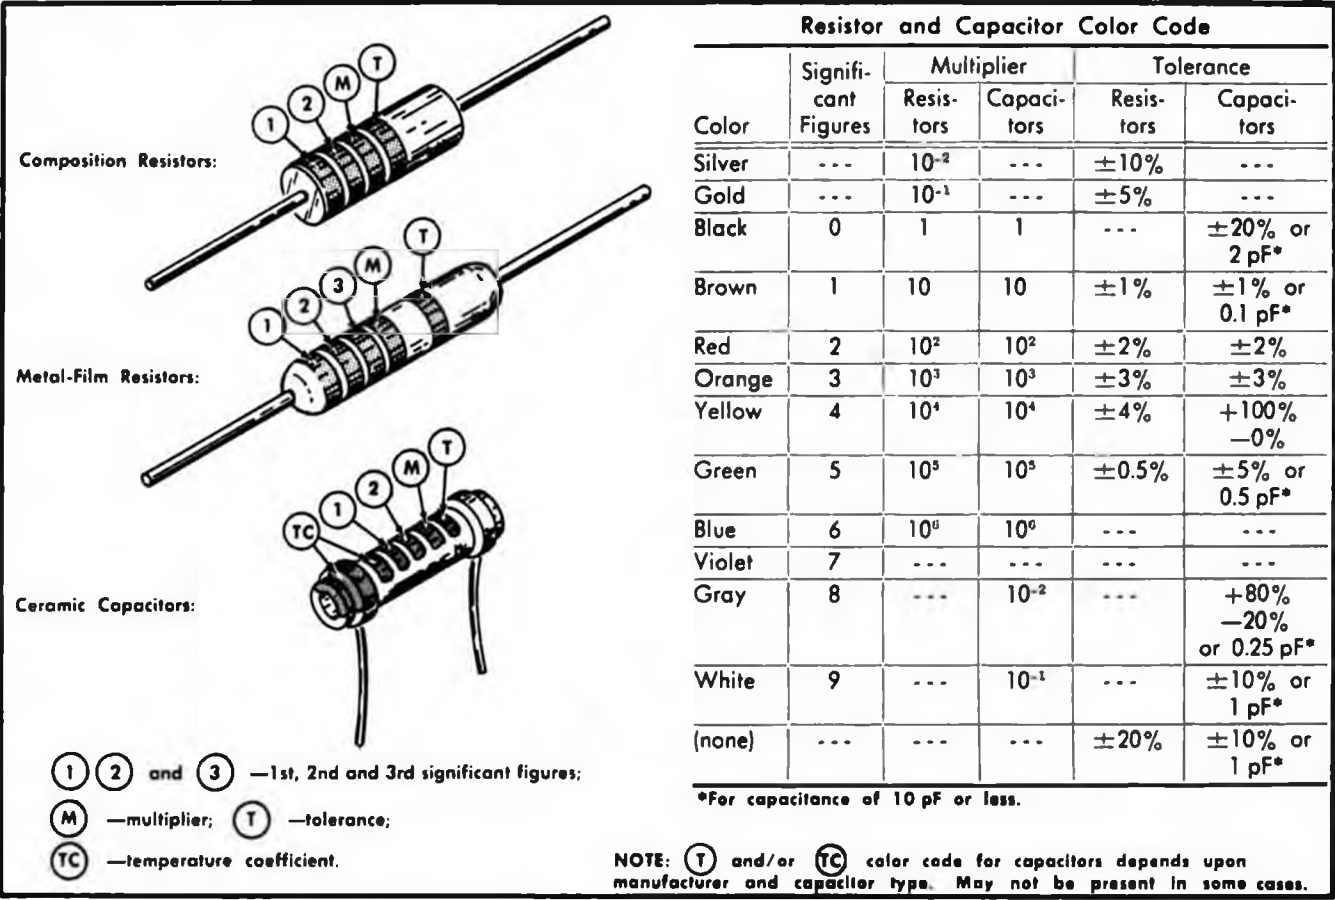

Fig. 4-2. Color-code for resistors and ceramic capacitors.
**Resistor Color-Code.** In addition to the brown composition resistors, some metal-film resistors and some wire-wound resistors are used in the 7704. The resistance values of wire-wound resistors are printed on the body of the component. The resistance values of composition resistors and metal-film resistors are color-coded on the components with EIA color-code (some metal-film resistors may have the value printed on the body). The color-code is read starting with the stripe nearest the end of the resistor. Composition resistors have four stripes which consist of two significant figures, a multiplier and a tolerance value (see Fig. 4-2). Metal-film resistors have five stripes consisting of three significant figures, a multiplier and a tolerance value.
**Capacitor Marking.** The capacitance values of common disc capacitors and small electrolytics are marked in microfarads on the side of the component body. The white ceramic capacitors used in the 7704 are color-coded in picofarads using a modified EIA code (see Fig. 4-2).